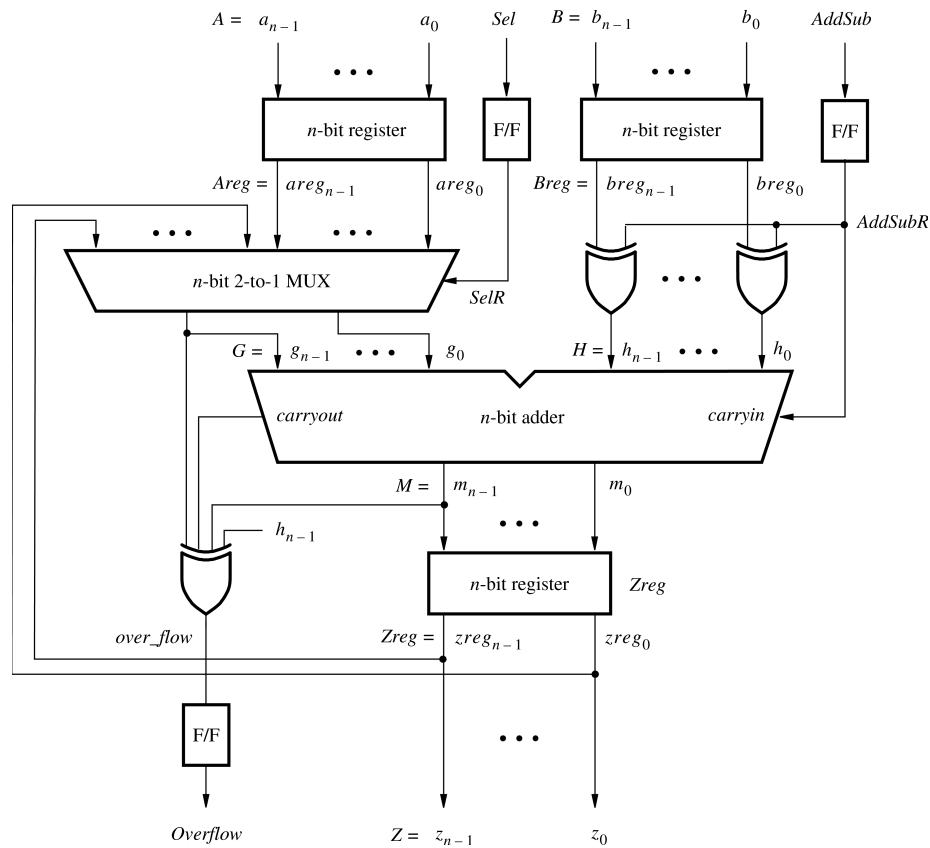
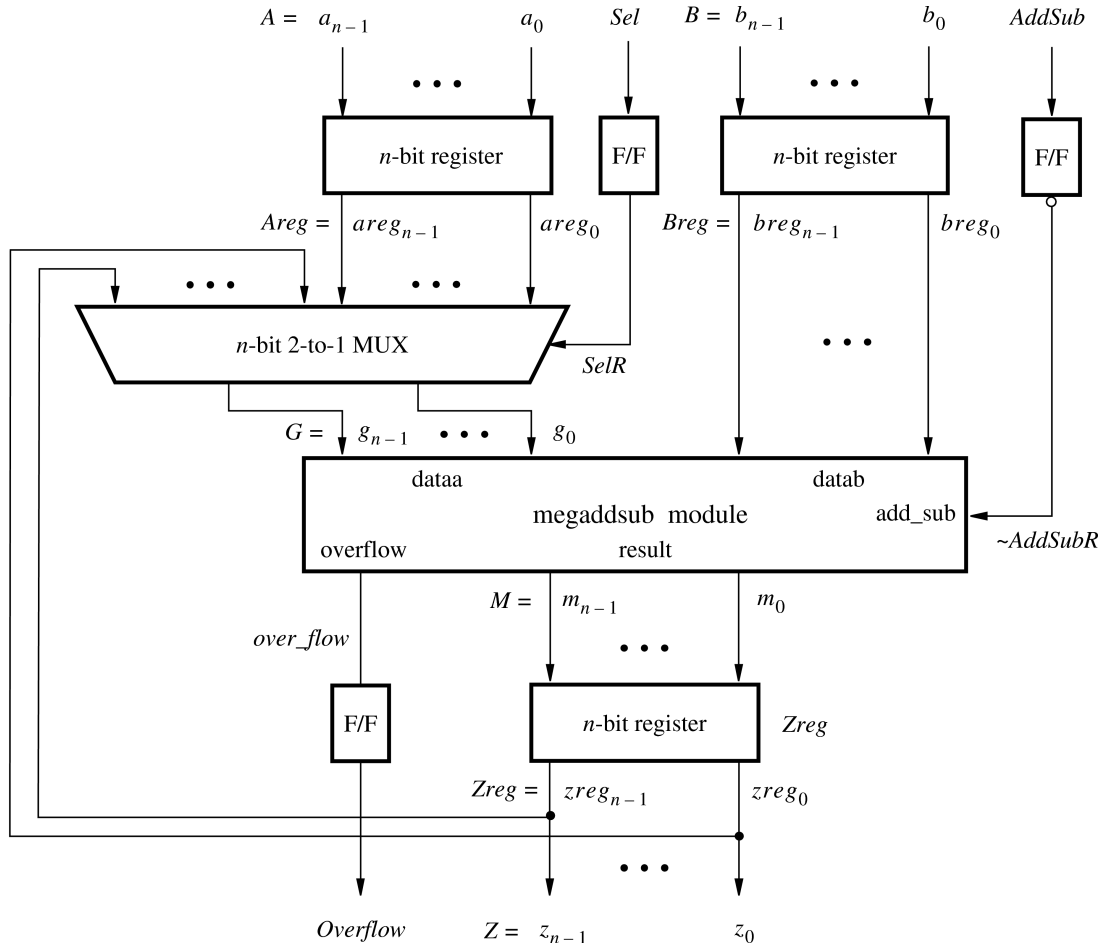
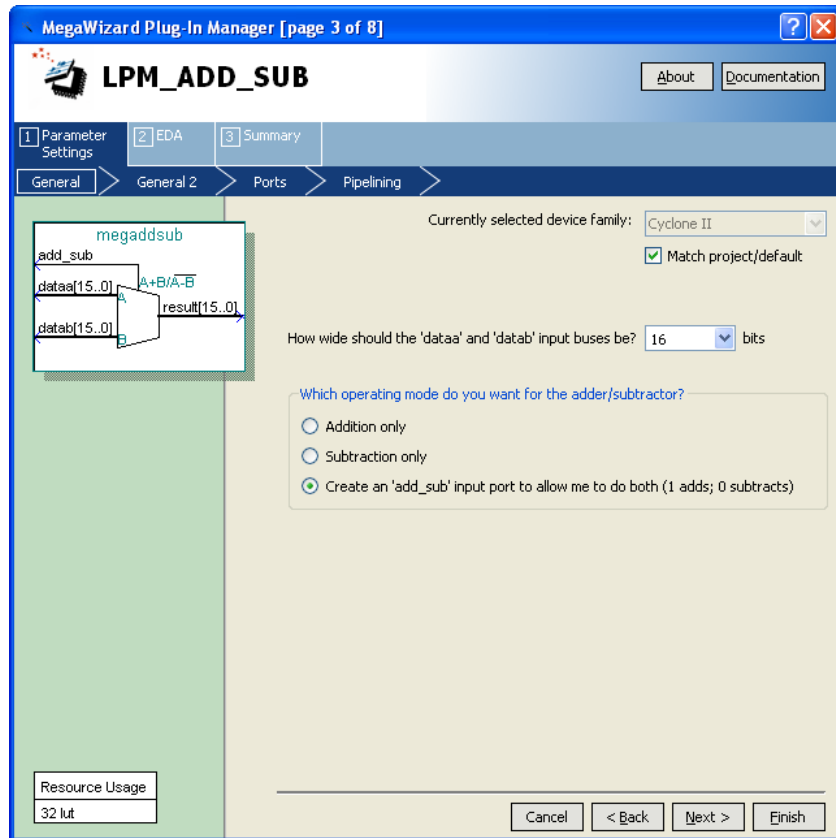

Figure 1. The adder/subtractor circuit.
Figure 3. The augmented adder/subtractor circuit.
Figure 6. Specify the size of data inputs.
As an example, we will use the adder/subtractor circuit shown in Figure 1. It can add, subtract, and accumulate  $n$ -bit numbers using the 2's complement number representation. The two primary inputs are numbers  $A = a_{n-1}a_{n-2} \cdots a_0$  and  $B = b_{n-1}b_{n-2} \cdots b_0$ , and the primary output is  $Z = z_{n-1}z_{n-2} \cdots z_0$ . Another input is the *AddSub* control signal which causes  $Z = A + B$  to be performed when *AddSub* = 0 and  $Z = A - B$  when *AddSub* = 1. A second control input, *Sel*, is used to select the accumulator mode of operation. If *Sel* = 0, the operation  $Z = A \pm B$  is performed, but if *Sel* = 1, then  $B$  is added to or subtracted from the current value of  $Z$ . If the addition or subtraction operations result in arithmetic overflow, an output signal, *Overflow*, is asserted.
We will use the *lpm\_add\_sub* module to simplify our adder/subtractor circuit defined in Figures 1 and 2. The augmented circuit is given in Figure 3. The *lpm\_add\_sub* module, instantiated under the name *megaddsub*, replaces the adder circuit as well as the XOR gates that provide the input *H* to the adder. Since arithmetic overflow is one of
4. In the box in Figure 6 specify that the width of the data inputs is 16 bits. Also, specify the operating mode in which one of the ports allows performing both addition and subtraction of the input operand, under the control of the *add\_sub* input. A symbol for the resulting LPM is shown in the top left corner. Note that if *add\_sub* = 1 then *result* = *A* + *B*; otherwise, *result* = *A* – *B*. This interpretation of the control input and the operation performed is different from our original design in Figures 1 and 2, which we have to account for in the modified design. Observe that we have included this change in the circuit in Figure 3. Click Next.
- The *adderk* instance of the adder circuit is replaced by *megaddsub*. Note that the *dataa* and *datab* inputs shown in Figure 6 are driven by the *G* and *Breg* vectors, respectively. Also, the inverted version of the *AddSubR* signal is specified to conform with the usage of this control signal in the LPM.